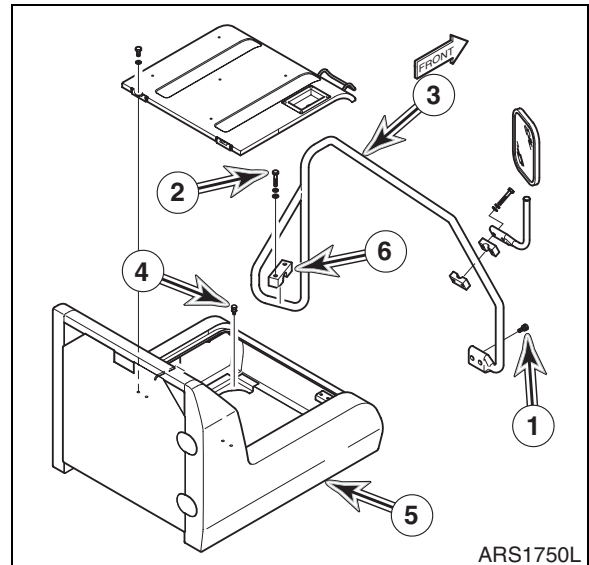

Figure 9
18. Remove four bolts (1 and 2, Figure 9), clamp (6) and stay (3) from the fuel tank and frame.
19. Remove four bolts (4) and cover (5) from the frame.